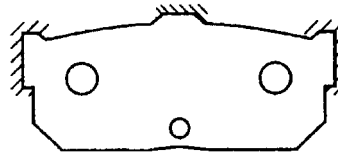

Figure 4
5. Apply molycoat grease to three specific areas of the pad backing plate, be careful not to get any grease on the friction material. See shaded portions of figure 4.